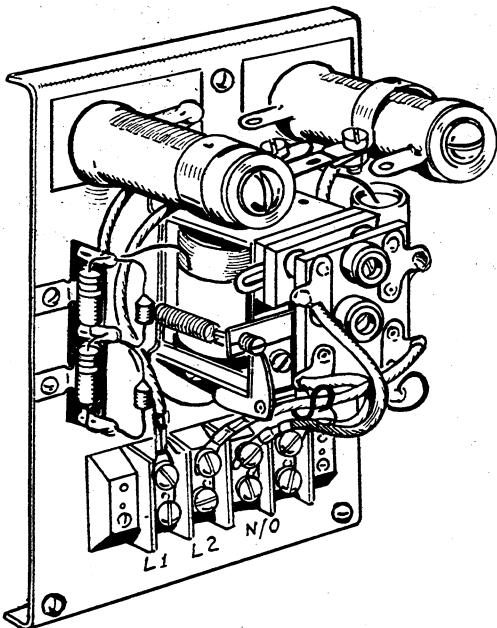

FIGURE 14. NONADJUSTABLE UNDERVOLTAGE SENSITIVE RELAY
**Nonadjustable Low Voltage Sensitive Relay:** Used only for undervoltage protection, these relays are preset to initiate transfer to standby power at 70 percent of normal voltage and back to normal power service at 90 percent (Figure 14).